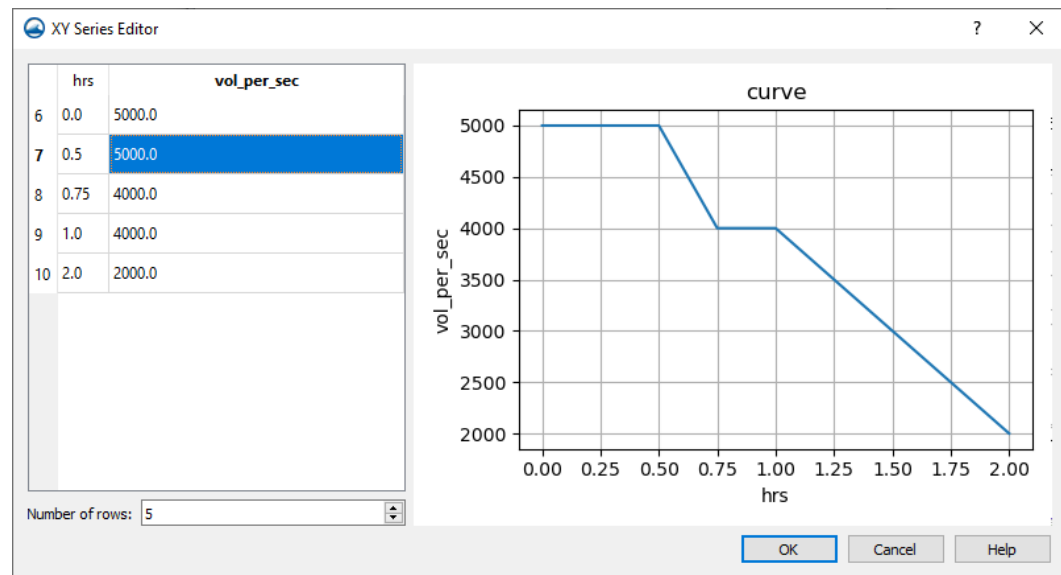

Figure 8 XY Series Editor
7. In the *XY Series Editor*, change the flow rate for time “0.0” and “0.5” to “5000” cfs as displayed in Figure 8.